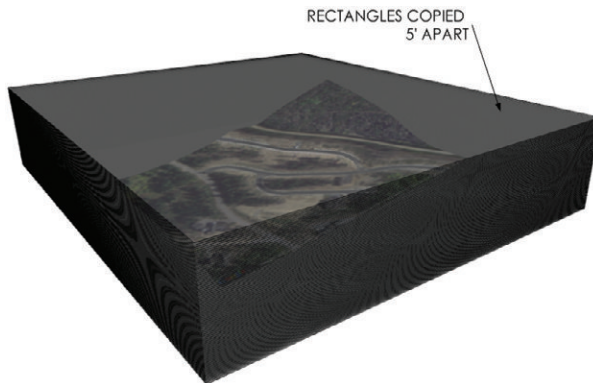

Figure 15.16 Rectangles slices are copied up on the blue axis at 5' intervals to completely cover the terrain; X-ray mode is turned on for effect.
5. Copy the rectangle up along the blue axis 5' (or whatever interval you want your topographic map to read; for example, 1', 10', 25'). Immediately after you make a copy, type **150x**, then press Enter, to make 150 additional copies of the original rectangle, each at the same interval. The goal is to make sure that the entire 3D terrain is covered with the rectangle slices (Figure 15.16).